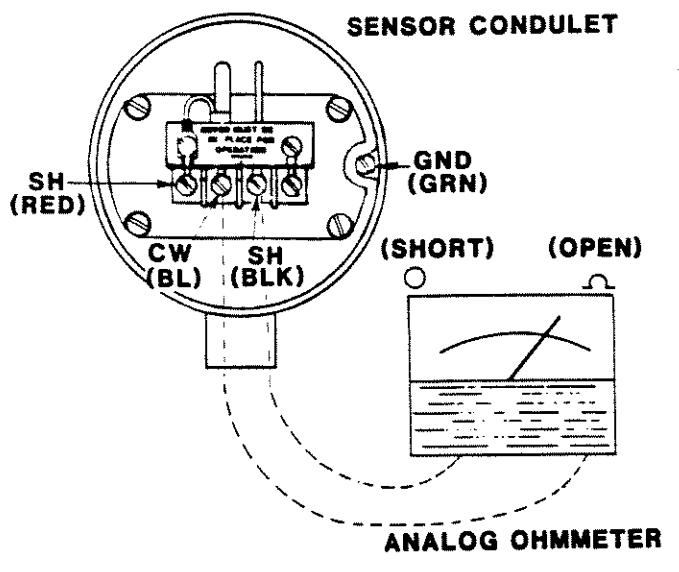

Fig.5-6
A. Disconnect the measuring cable from the sensor terminals. See Figure 5-6.